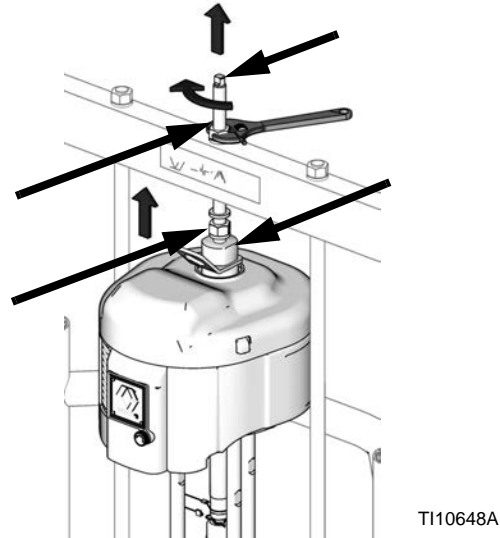

FIG. 16: 200 Liter (55 Gallon) Platen
- a. *For 200 liter (55 gallon) platen:* Use wrench on nut on top of ram bar to lower air motor onto displacement pump. See FIG. 16 on page 22. Thread nut up and tighten it under ram bar. Tighten nut below the crossbar to 25 ft-lb (34 N•m) maximum.